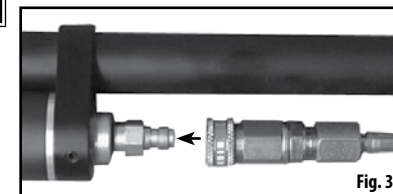

Fig. 3
- Attach the quick disconnect fitting from your filling equipment to the fill nipple on the airgun (See Fig. 3).